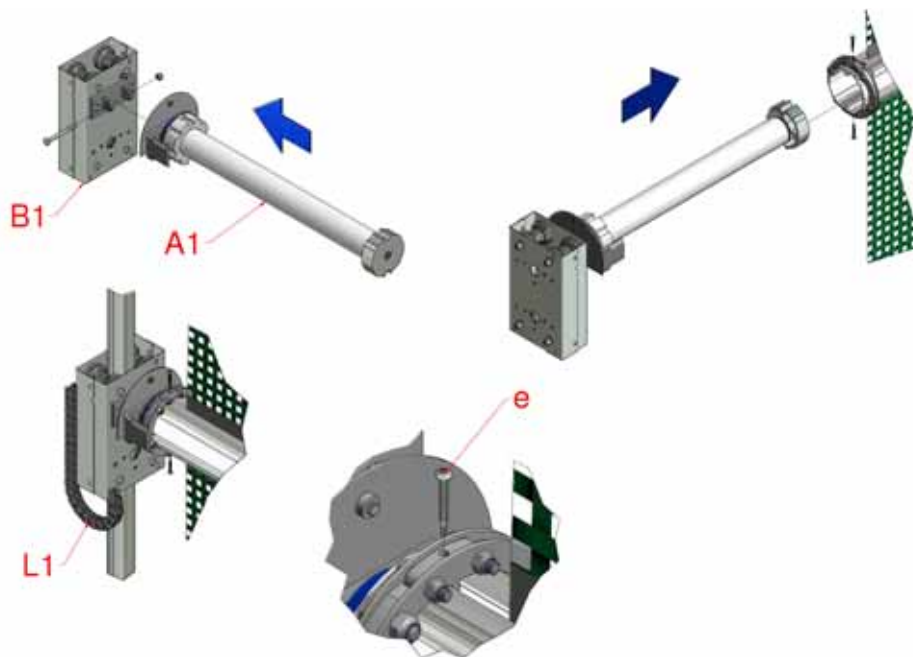

Figure 17, Single Motor and Trolley Box
- 4.3 Assemble the Motor (A1) to the drive end Trolley Box (B1) using the M8x80 bolt and nyloc nut, Figure 17. Fit the Energy Chain Bracket (L1) to the lower outside edge of the Trolley Box with the M3x8mm screws and nuts and insert the Motor and Trolley Box assembly into the drive end of the Middle Tube. Secure the Safety Clutch to the tube with the two M4.2x32mm long self drilling screws (e) through the holes in the clutch plate spacers.